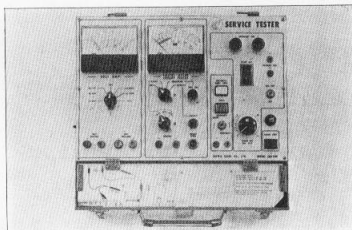

Figure 6-9. Service tester
- (3) Install the timing attachment on end of the spark plug, and then attach one end of the timing light cord.
- (4) Insert the lead into the ENGINE SPEED jacks.
- (5) Connect the test lead \oplus probe to the \ominus side.
- (6) Set the selector switch II to E. SPEED.
- (7) Set the selector switch III range.
- (8) Start the engine.
- (9) Adjust the engine to specified idling speed.
- (10) Shine the timing light on the timing window and read the timing mark. (Fig. 6-9)